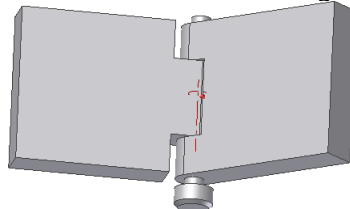

Figure 1
30. The assembly should appear like that shown in Figure 1.